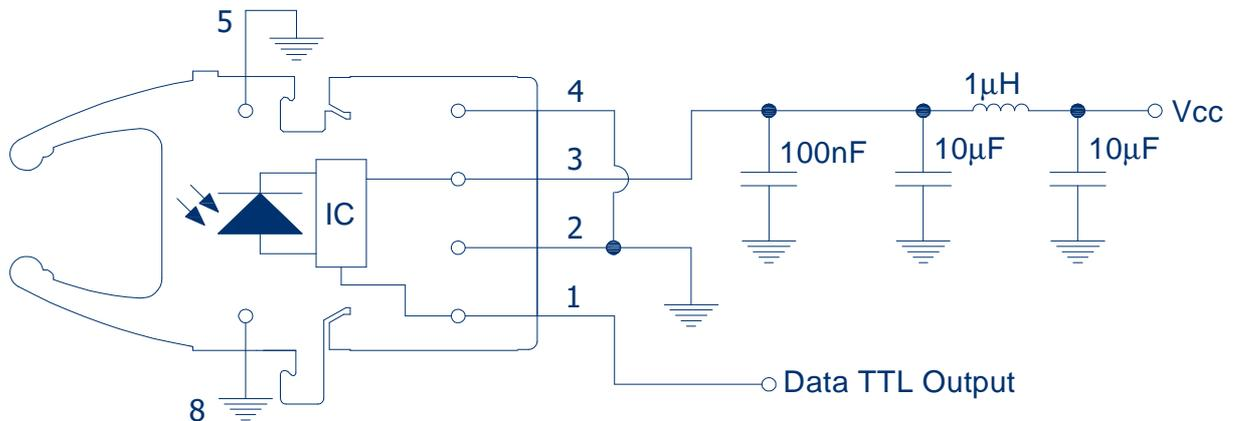

FIGURE 2
- Pin 4 is electrically isolated internally. Pin 4 may be externally connected to pin 1 for board layout compatibility with existing designs. Otherwise it is recommended pin 4 be grounded as in Figure 2.
Receiver Propagation Delay and rise/fall time definitions as per application circuit of Figure 2.